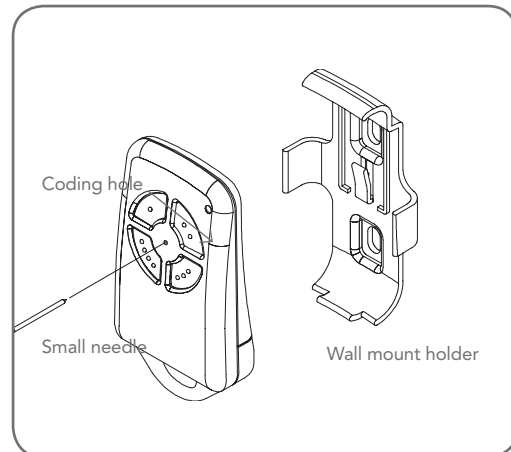

fig 27
2. Then using a small needle press and hold firmly for two seconds through the Coding Hole (**Fig. 27**)